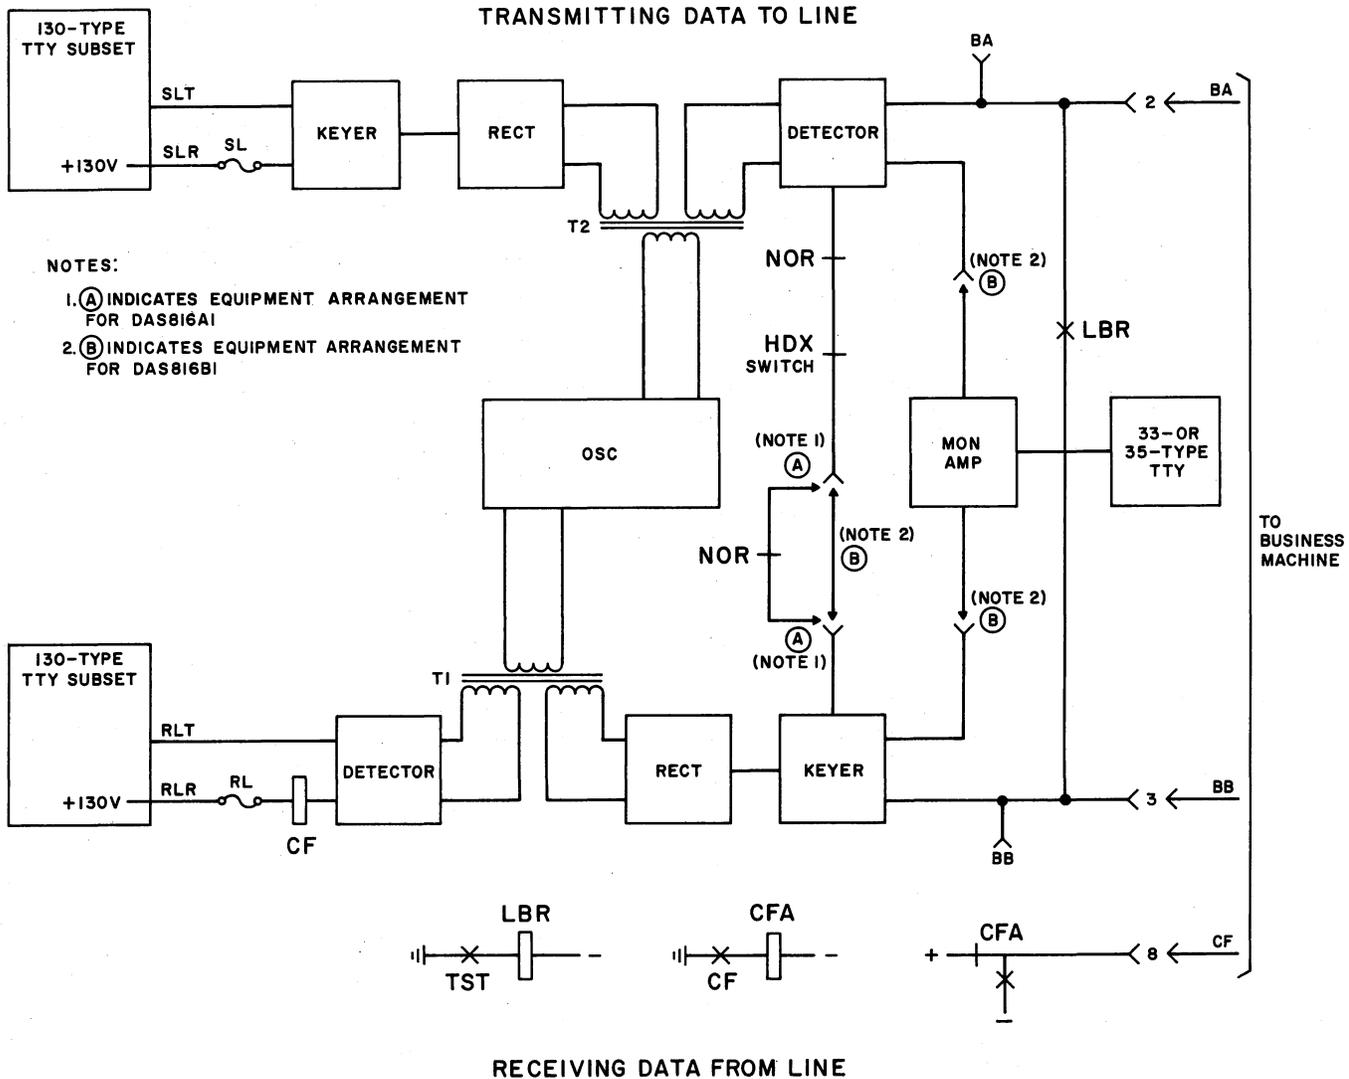

Fig. 6 — Block Diagram DAS 816-Type
- 3.07** The following description (using Fig. 6) will cover a general operating description of DAS 816A1. DAS 816B1 is equipped with the same data coupling unit and will function in the same manner. For details of operation refer to CD- and SD-3D023-01.
3.14 The NOR-TST switch on CP AR30 is provided for selecting either normal operation of the data coupling unit (NOR) or to facilitate its overall test (TST). The TST mode permits remote testing of the data coupling unit (by the operation of relay LBR) and its associated 130-type TTY subscriber set from a Serving Test Center location, by permitting incoming signals on the receiving leg of the 130-type TTY subscriber set to be coupled to its sending leg through the entire transmission path of the data coupling unit. During such tests, suitable supervisory termination is provided to the business machine. The DAS 816A1 includes an additional TEST switch and lamp external to the card so that it can be operated with the cover in place (Note 1 on Fig. 6). This is a combined key and lamp. The key is a push to operate (TST), push to release (NOR) switch. The lamp is on in the test position. The NOR-TST switch on the data coupling unit MUST be set to NOR for DAS 816A1. In the case of DAS 816B1 a monitoring amplifier and a 33- or 35-type TTY is provided. The additional TST switch and TST lamp are not provided (Note 2 on Fig. 6).